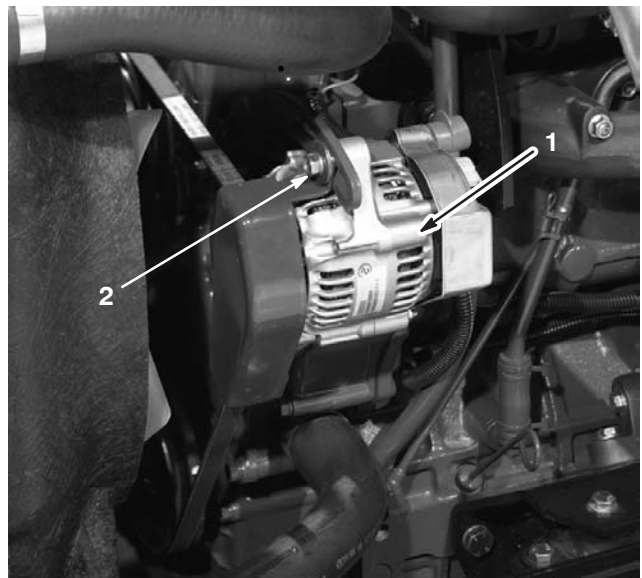

Figure 54
Check the condition and tension of the belts (Fig. 54) after every 100 operating hours.
2. If the deflection is not 3/8 in. (10 mm), loosen the alternator mounting bolts (Fig. 54). Increase or decrease the alternator belt tension and tighten the bolts. Check the deflection of the belt again to ensure that the tension is correct.